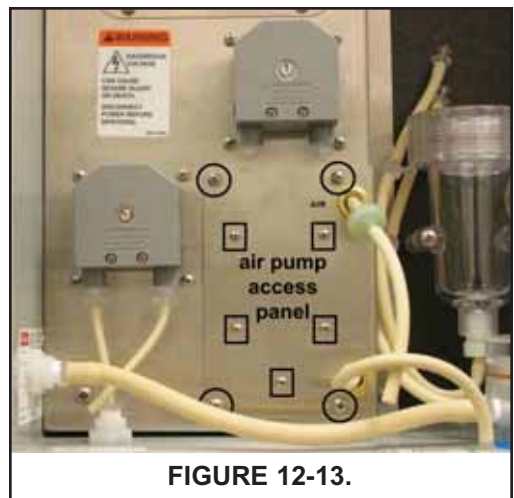

FIGURE 12-13.
3. Remove the four screws (circled in Figure 12-13) holding the air pump access panel. Pull out the pump and panel.
5. Remove the five screws (surrounded by squares in Figure 12-13) holding the air pump to the access panel.